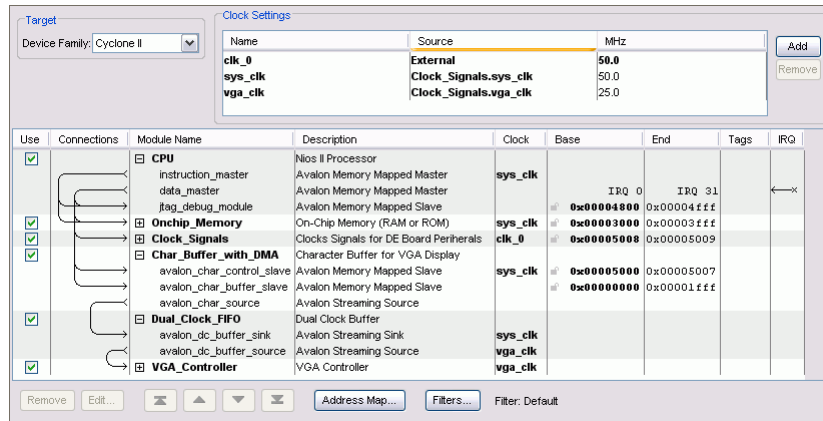

Figure 1. Character display example's SOPC Builder system
In this example, drawing characters on the screen is implemented using the system shown in figure 1. To display a character on the screen, users must specify the character location to the Character Buffer IP core. Once specified, the character buffer renders an image of each character and sends it to the Dual-Clock (DC) FIFO core. The DC Fifo buffers part of an image to be displayed on the screen until the VGA IP core is ready to display it. When the VGA cores is ready, the image will be displayed on the screen. It is important to note that in this example the VGA IP core and the character buffer operate at different clock frequencies. This is because the VGA IP Core needs to run at 25 MHz to properly display an image on the screen, while the Character Buffer was connected to the system clock, which runs at 50 MHz. To allow both components to work together, the Clock Signals core generates the appropriate clocks, and the DC FIFO facilitates reliable communication between the two IP cores.